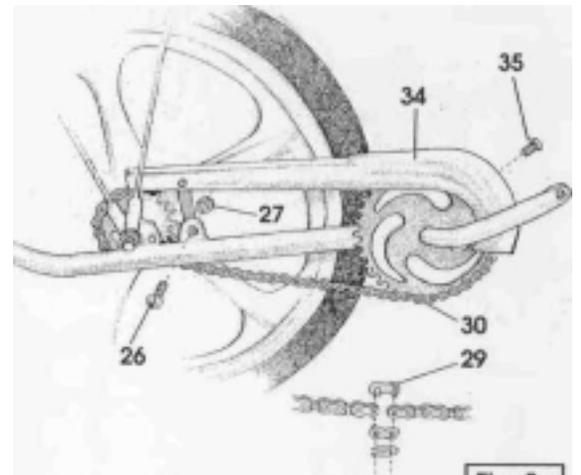

Fig. 5a
Install chainguard (34) by removing the screw (35) in the front mounting bracket (see figure 5a). Place the rear of the chainguard between the wheel and fender brace. Align hole in rear of chainguard mounting bracket with the hole in the wheelholder tab. Make sure the chainguard is on the inside of the fender braces. Insert screw (26) from the outside and secure with nut (27). Pull chainguard forward until front chainguard mounting bracket hole lines up with the second hole in the front of the chainguard. Secure chainguard with screw (35). Carefully crank pedals and adjust as needed for clearance.